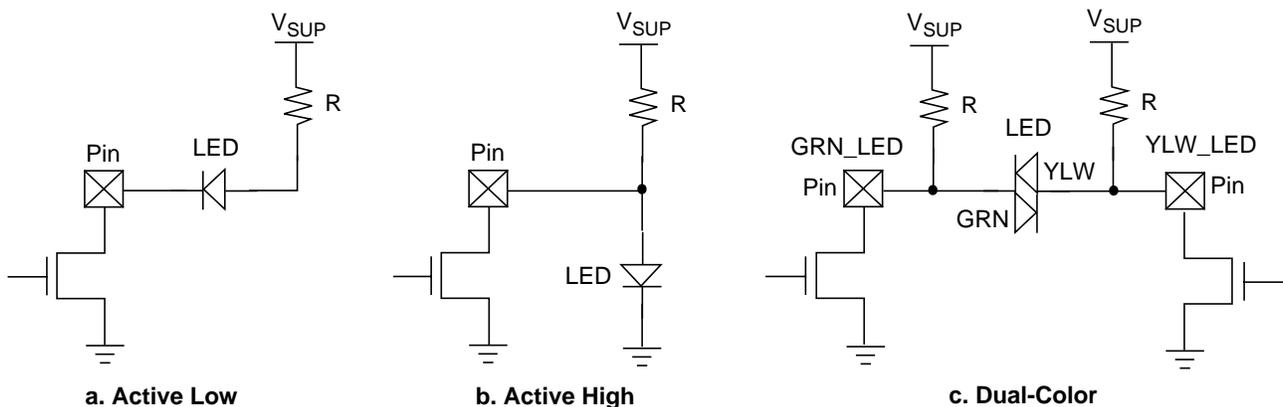

Figure 16. LED Connection Configurations
The LEDs can be connected to PC87373 using one of the configurations shown in Figure 16.
The Standard LED control is the default LED control option when V_{BAT} pin is connected to ground (V_{SS}). Two regular LEDs must be connected to the GRN_LED and the YLW_LED pins, according to configuration “b” (Active High) in Figure 16.
Table 34 on page 89 shows the states of the GRN_LED and YLW_LED pins. The LEDs are connected according to configuration “b” (see Figure 16); therefore, a LED is on when the pin is TRI-STATEd and off when the pin is at low level (0).
In the Advanced LED control option, one dual-color LED or two regular LEDs can be connected to the GRN_LED and the YLW_LED pins, using any of the configurations shown in Figure 16. LEDCFG and LEDPOL bits in ALEDCTL register (at offset 02h; see Section 6.3.4 on page 91) must be set to reflect the connection configuration of the LEDs.
LEDCFG bit selects either configurations “a” and “b” (two regular LEDs are connected between each pin and ground or V_{SUPP}) or configuration “c” (one dual-color LED is connected between the GRN_LED and YLW_LED pins). LEDPOL bit selects the polarity of the On state at both pins (GRN_LED and YLW_LED). Table 32, shows the value of LEDCFG and LEDPOL bits for each LED connection configuration in Figure 16, and also the state of the GRN_LED and YLW_LED pins for which the LED(s) are On.
The Special LED control is the default LED control option when a Lithium backup battery is connected to V_{BAT} pin ($V_{BAT} > V_{BATLOW}$). Two regular LEDs must be connected to the GRN_LED and the YLW_LED pins, according to configuration “b” (Active High) in Figure 16.
Table 36 on page 92 shows the states of the GRN_LED and YLW_LED pins. The LEDs are connected according to configuration “b” (see Figure 16 on page 85); therefore, a LED is On when the pin is TRI-STATEd; it is Off when the pin is at low level (0).